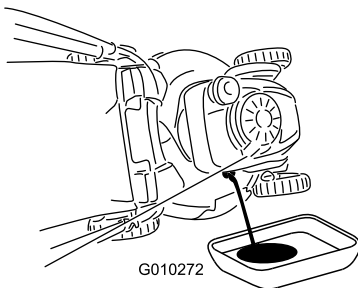

Figure 25
4. Tip the machine onto its side, with the dipstick down, to drain the used oil out through the oil-fill tube into an oil drain pan (Figure 25).